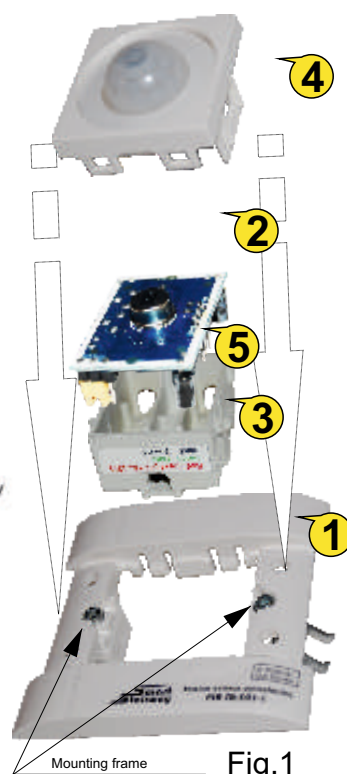

Fig.1
1. Remove the sensor module housing 2 with the cover 3 from the mounting frame 1 (see Fig. 1). To do this, release the holders on the frame 1 (be careful not to break the holders)
2. Release the cover holders 3 (be careful not to break the holders), remove the cover from the housing 2 (Fig. 1)